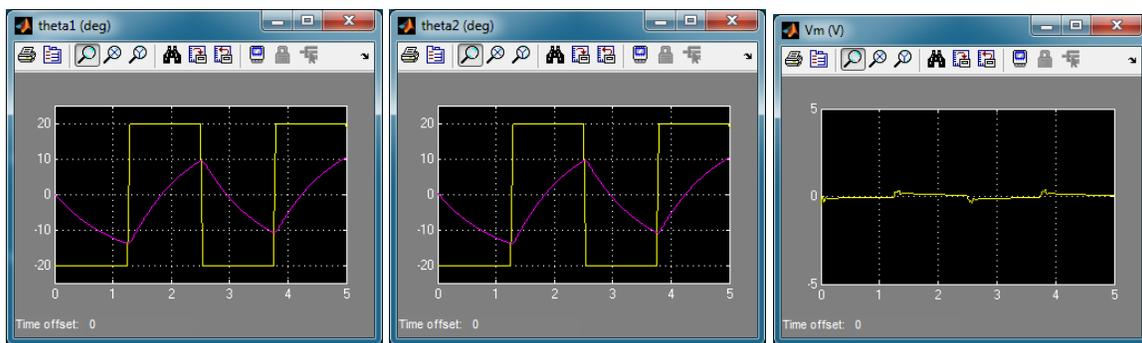

Figure 3.3: Default Simulated Closed-Loop Response
- Run `s_torsion` to simulated the closed-loop response with this gain. See Figure 3.3 for the typical response.